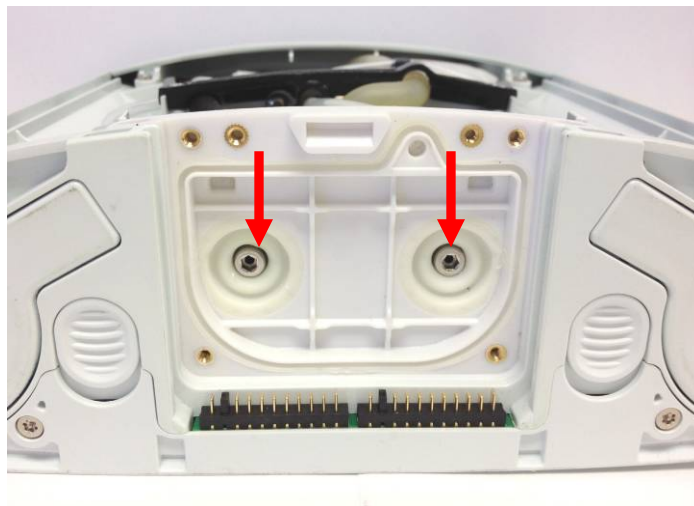

Figure 5: Compressor screws
3. Locate and remove the two screws connecting the compressor feet to the filter body with a 1/8" hex driver (Figure 5).
1. Place the new compressor in the space in the chassis and align the compressor feet with the molded mounts on the filter body (Figure 9). Reinstall the two screws that connect the compressor to the filter body, lightly tightening by hand (Figure 5).